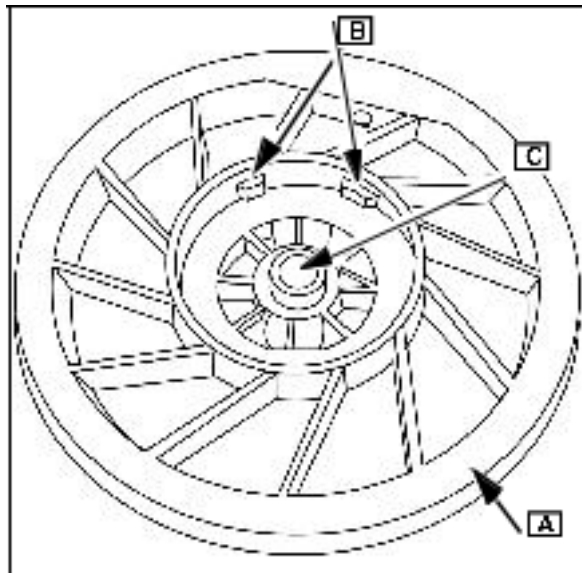

Fig. 14
Inspect starter pulley for cracks, rough edges, wear or burrs in pulley groove (A), wear on spring cup lugs (B) and center hole (C) Fig. 14). Replace pulley if damaged or worn.